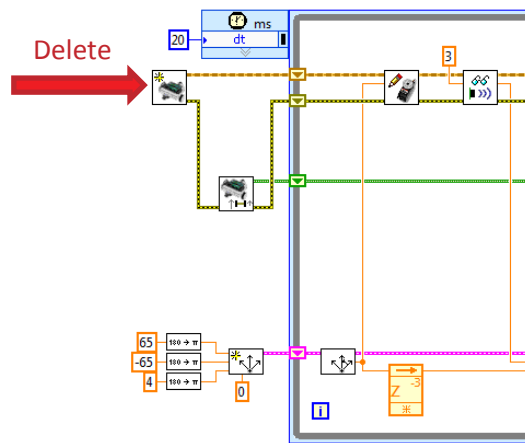

Figure 3.2
Step 5: Now we will create a sub VI that will handle roaming and edge detection. Create a New VI and save it as RoamingSubVI. Maximize the roaming VI that was minimized earlier and copy the contents of the block diagram. Paste this into the RoamingSubVI's block diagram. We will need to make a few changes to the code so that we can use it as a sub VI. Delete the initialize and close references as shown in figure 3.2 and 3.3. Do not delete the wires.